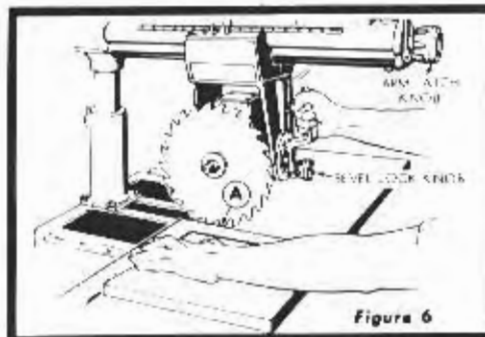
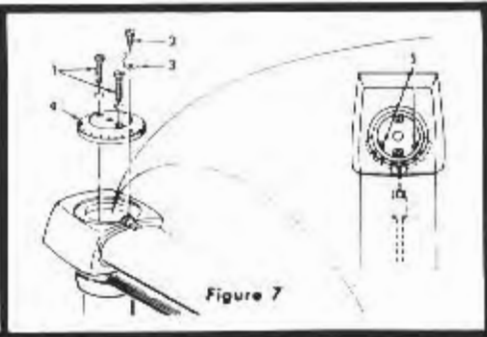

Figure 6
Figure 7
1. Loosen the arm latch knob (figure 6) 1/4 turn. Make sure the yoke clamp handle and bevel lock knob are tight.
4. Place a framing square on the table as shown in figure 6 and position the saw and square until the leg of the square just contacts a tooth of the saw blade. (Position "A", figure 6) Mark this tooth with crayon or chalk.
a. If saw tooth ("A", figure 6) moves away from the square when moving the blade from the rear toward the front of the table, tap the right-hand front edge of the table.
b. If the saw tooth ("A", figure 6) moves into the square when moving saw from the rear to the front of saw table, tap the left-hand front edge of table.
a. Remove three screws (1 and 2, figure 7), miter-scale indicator (3) and radial arm cap (4).
b. Turn the arm latch handle (figure 6) one-quarter turn counterclockwise, but do not pull it out.
c. Loosen (do not remove) the hex-head screws (5, figure 7) located inside the column tube.
d. Move radial arm slightly in the proper direction to make saw tooth ("A", figure 6) follow edge of square when the saw blade is moved in and out in a "crosscut" manner.
e. Retighten the hex head screws (5, figure 7) and arm latch handle. (See figure 6.)
g. After the crosscut has been accurately squared, install the radial arm cap (4, figure 7), miter-scale indicator (3) and screws (1 and 2). Set the indicator (3) at 0° position.